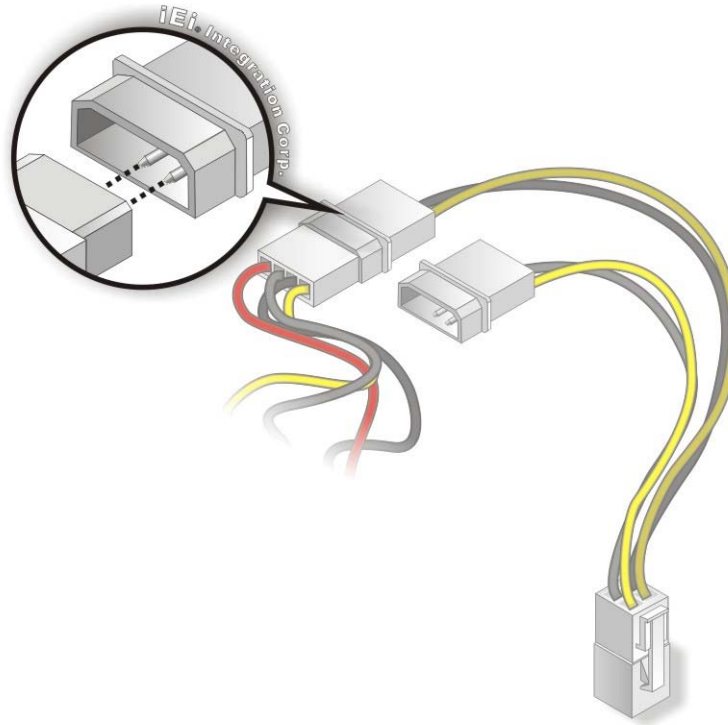

Figure 4-17: Connect Power Cable to Power Supply
Step 3: Connect Power Cable to Power Supply. Connect one of the 4-pin (1x4) Molex type power cable connectors to an AT/ATX power supply. See **Figure 4-17**.